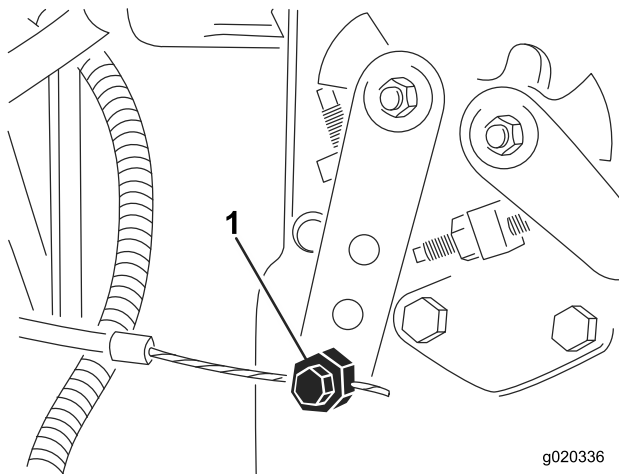

Figure 61
2. Loosen the throttle cable connector on the injection pump lever arm (Figure 61).